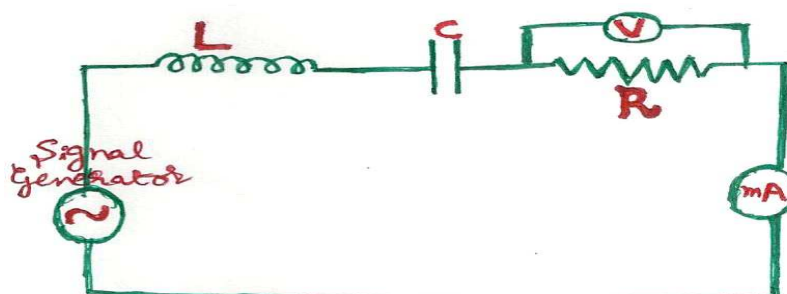

Figure1.
An A.C circuit containing inductance, capacitance and resistance is represented in **Figure1**. Let a sinusoidal emf  $E = E_0 \sin \omega t$  act in circuit L.C.R the current produced is also in sinusoidal fashion.
1. The capacitance (C), inductance (L), resistance (R) and A.C milli Voltmeter are connected in series with a function generator as shown in the figure1.